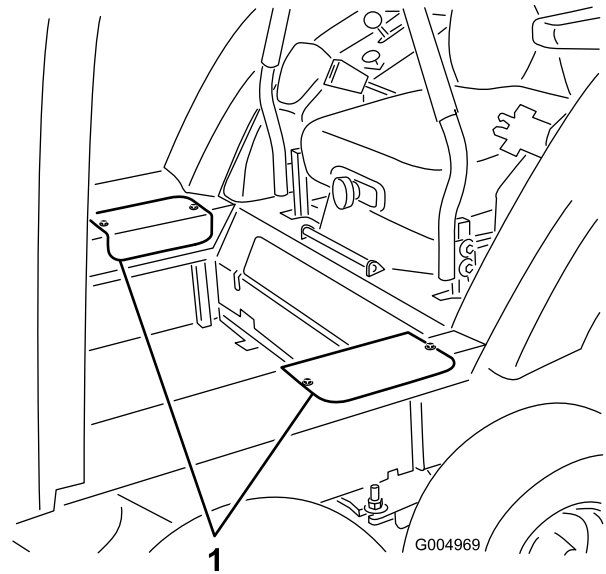

Figure 132
2. Remove the two screws securing each side access cover and remove the covers (Figure 132).